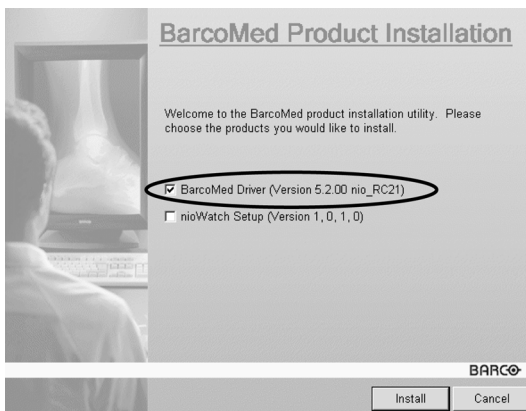

Figure 61
3. Make certain that the checkbox next to the driver is checked and that all other checkboxes are unchecked (figure 61 below). Click **"Install"** to continue.